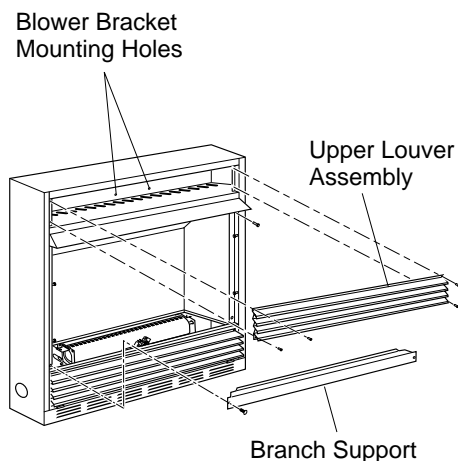
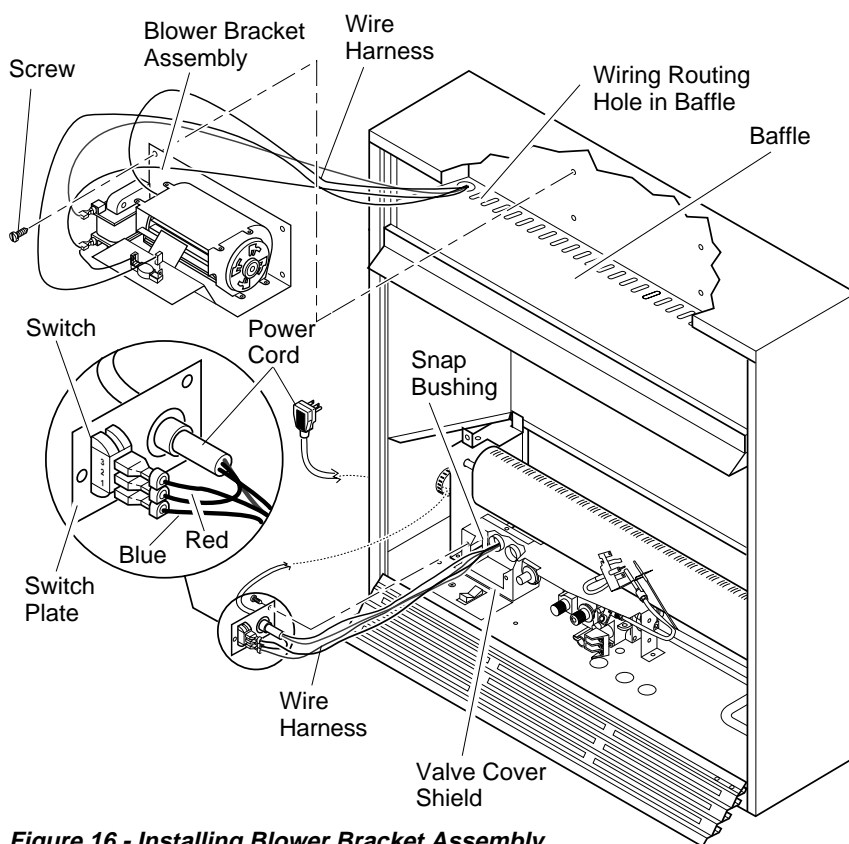
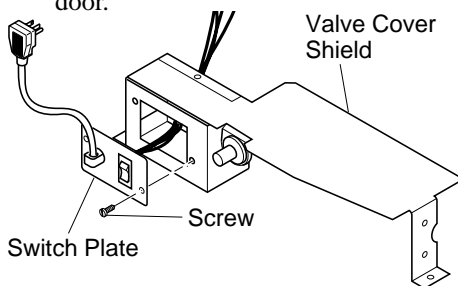

Figure 15 - Removing Upper Louver Assembly and Branch Support
Figure 16 - Installing Blower Bracket Assembly
Figure 17 - Installing Switch Plate to Valve Cover Shield
2. Remove 2 screws from each side of branch support and pull branch support out (see Figure 15).
3. Remove 4 brass-plated screws from louver assembly (see Figure 15). Save these screws.
3. Note the wire locations on back of AUTO/OFF/ON switch. The terminals on back of switch are numbered 1, 2, and 3. Carefully remove red wire from terminal 3 and blue wire from terminal 1. Black wire can remain on middle terminal 2 (see Figure 16).
5. In top of the heater cabinet, locate the four mounting holes on the outer casing. Align these four holes with those on the blower bracket assembly. Attach blower bracket assembly to the outer casing with 4 #10 screws provided (see Figure 16).
6. Route the wire harness through the hole in left side of baffle. Pull wire harness through lower opening on the side of the valve shield. (see Figure 16).
7. Insert the 4 wire harness into one of the round holes in the rear of the valve cover shield and through the rectangular hole in the front of shield (see Figure 16).
9. Install the switch plate on the valve cover shield with 2 #10 screws provided (see Figure 17). Route power cord out of the cabinet by inserting it through the bushing on the outer casing (see Figure 16, page 11). Plug fan kit into 120-Volt grounded power supply and test operation. **Note:** When switch is in the AUTO position, the fan will start after the heater has run for a few moments. The fan will continue to run for several moments after the heater has been turned off. When switch is in the ON position, the fan will run until turned to OFF. Reinstall upper louver assembly (see Figure 15, page 11) and branch support. Close lower louver door.
6. Reinstall upper louver assembly (see Figure 15, page 11) and close lower louver.